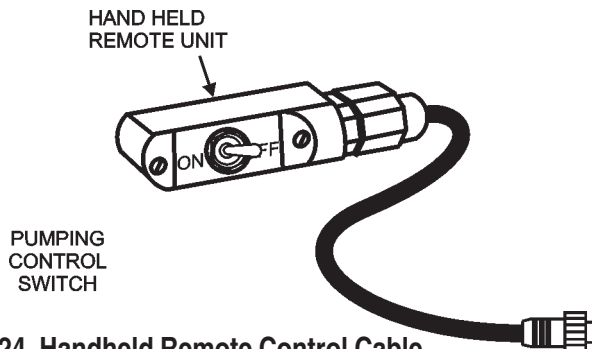

Figure 24. Handheld Remote Control Cable
- Connect the hand-held remote control cable (Figure 24) to the control box.
- To begin pumping, place the toggle switch on the hand-held remote unit (Figure 24) in the pump **ON** position